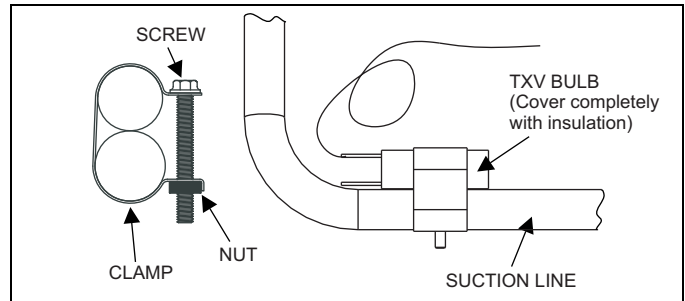

FIGURE 9: Proper Bulb Location
The low voltage transformer and fan / heater control, are standard on all models. See Figure 9. The air handlers are shipped pre-wired to operate as cooling-only applications. To complete the installation for cooling only, install the 6-pin jumper plug to the control board to bypass the heater limit controls. This jumper plug is secured to the duct cover near the 4-pin power plug harness. Failure to install the plug will cause the blower to run continuously. (See Figure 9).
1. Remove the 4-pin power plug from the control board (See Figure 9).
2. Remove the four (4) screws from the duct cover and remove the duct cover from the air handler.